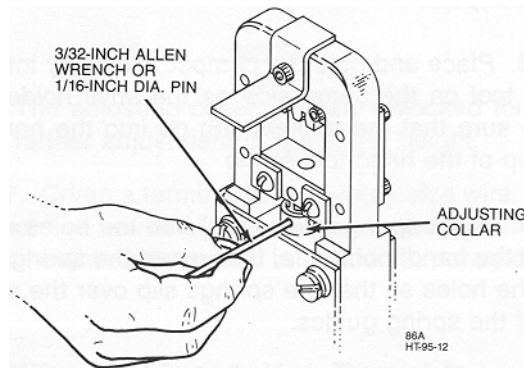

Figure 14
3. Insert the turned-down end of the 3/32-inch Allen wrench or a pin, approximately 1/16-inch in diameter, into one of the holes in the adjusting collar (see Figure 14). Then rotate the collar about 5 degrees counterclockwise to increase crimp height or clockwise to decrease crimp height.